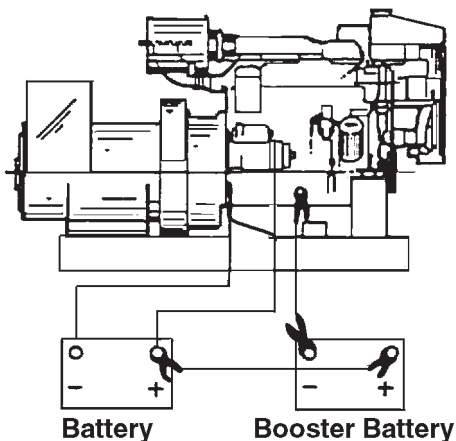

Figure 14. Booster Battery Connections.
3. First, connect positive (+) terminal of booster battery to positive (+) terminal of main battery. Then, connect negative (-) terminal of booster battery to ground on the engine block. (See Fig. 14)